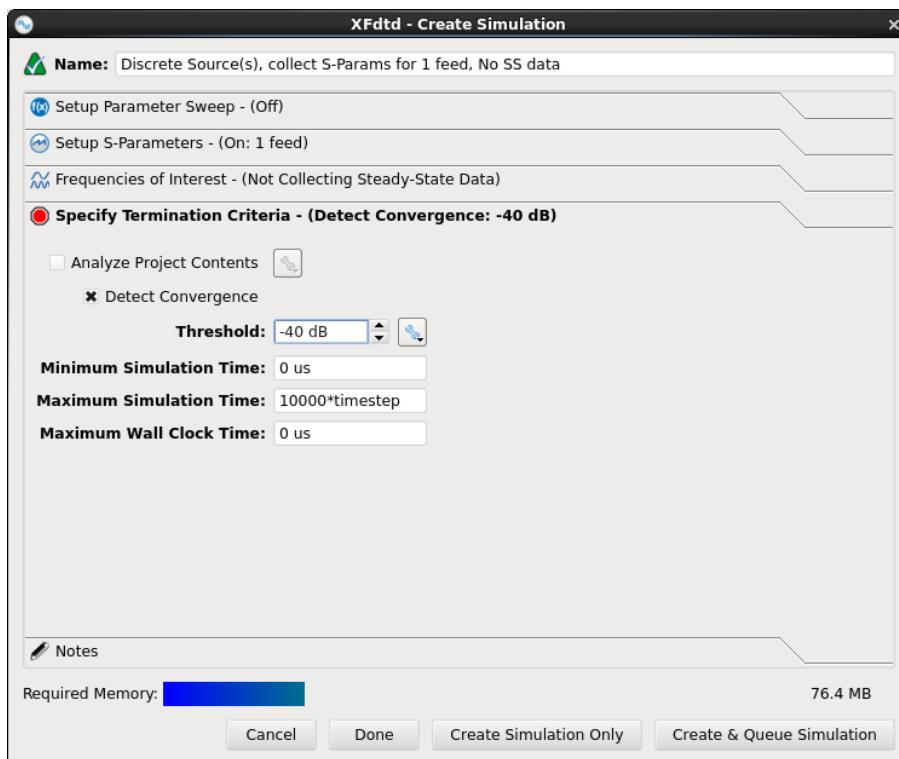

Figure 4.21: Adding a new simulation to the low pass filter project
- Most of the default settings are sufficient. Navigate to the SPECIFY TERMINATION CRITERIA tab (Figure 4.21). Set up the termination criteria as follows: